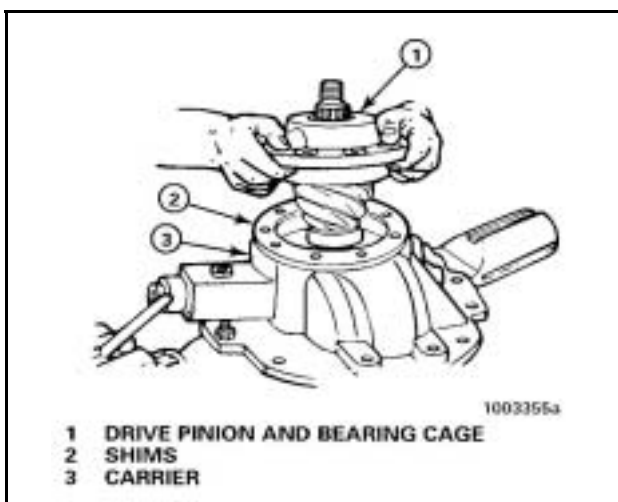

Figure 76a
5. Install the drive pinion and bearing cage into the carrier. If necessary, use a rubber, plastic or leather mallet to hit the assembly into position. **Figure 76a.**